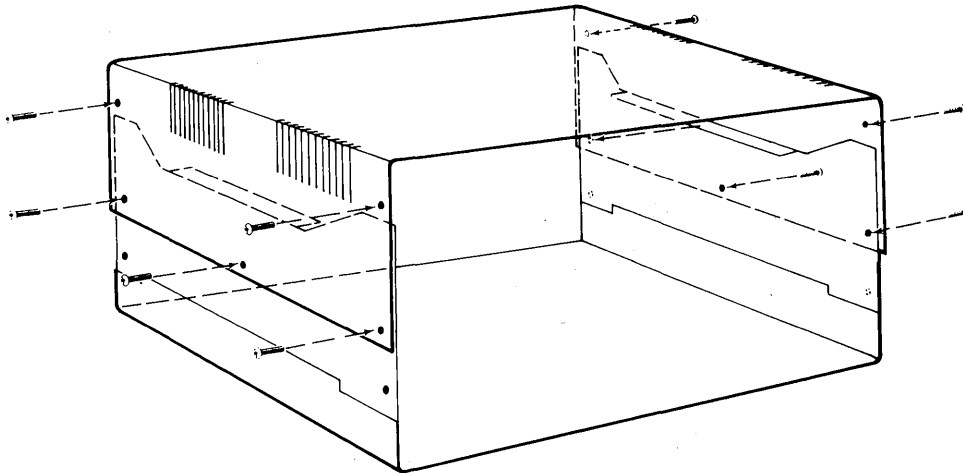

Figure 2-9 Location of the Top Five Screws in TS 816/40 Case
1. Open the TS 816/40 case. There are seven screws on each side of the computer case. Using a Phillips screwdriver, remove the top five screws that secure the top cover; do not remove the lower two. (Refer to Figure 2-9.) To lift off the cover, pull the front panel forward and then slide the cover away from the rest of the system.